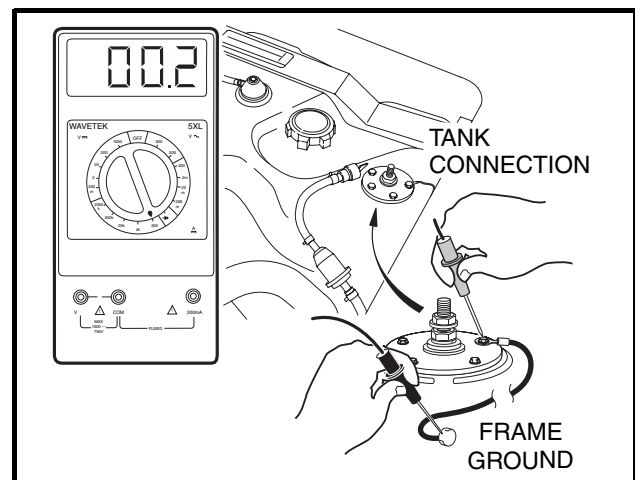

Figure 11-12 Fuel Tank Ground
- 5.2. Set the multimeter to 200 ohms. Place the red (+) probe on the terminal for the fuel tank ground connection, and place the black (–) probe on the vehicle frame (**Figure 11-12, Page 11-16**). The reading should be continuity. If there is no continuity, clean and tighten all cable connections. If the connections are good, repair or replace the cable.